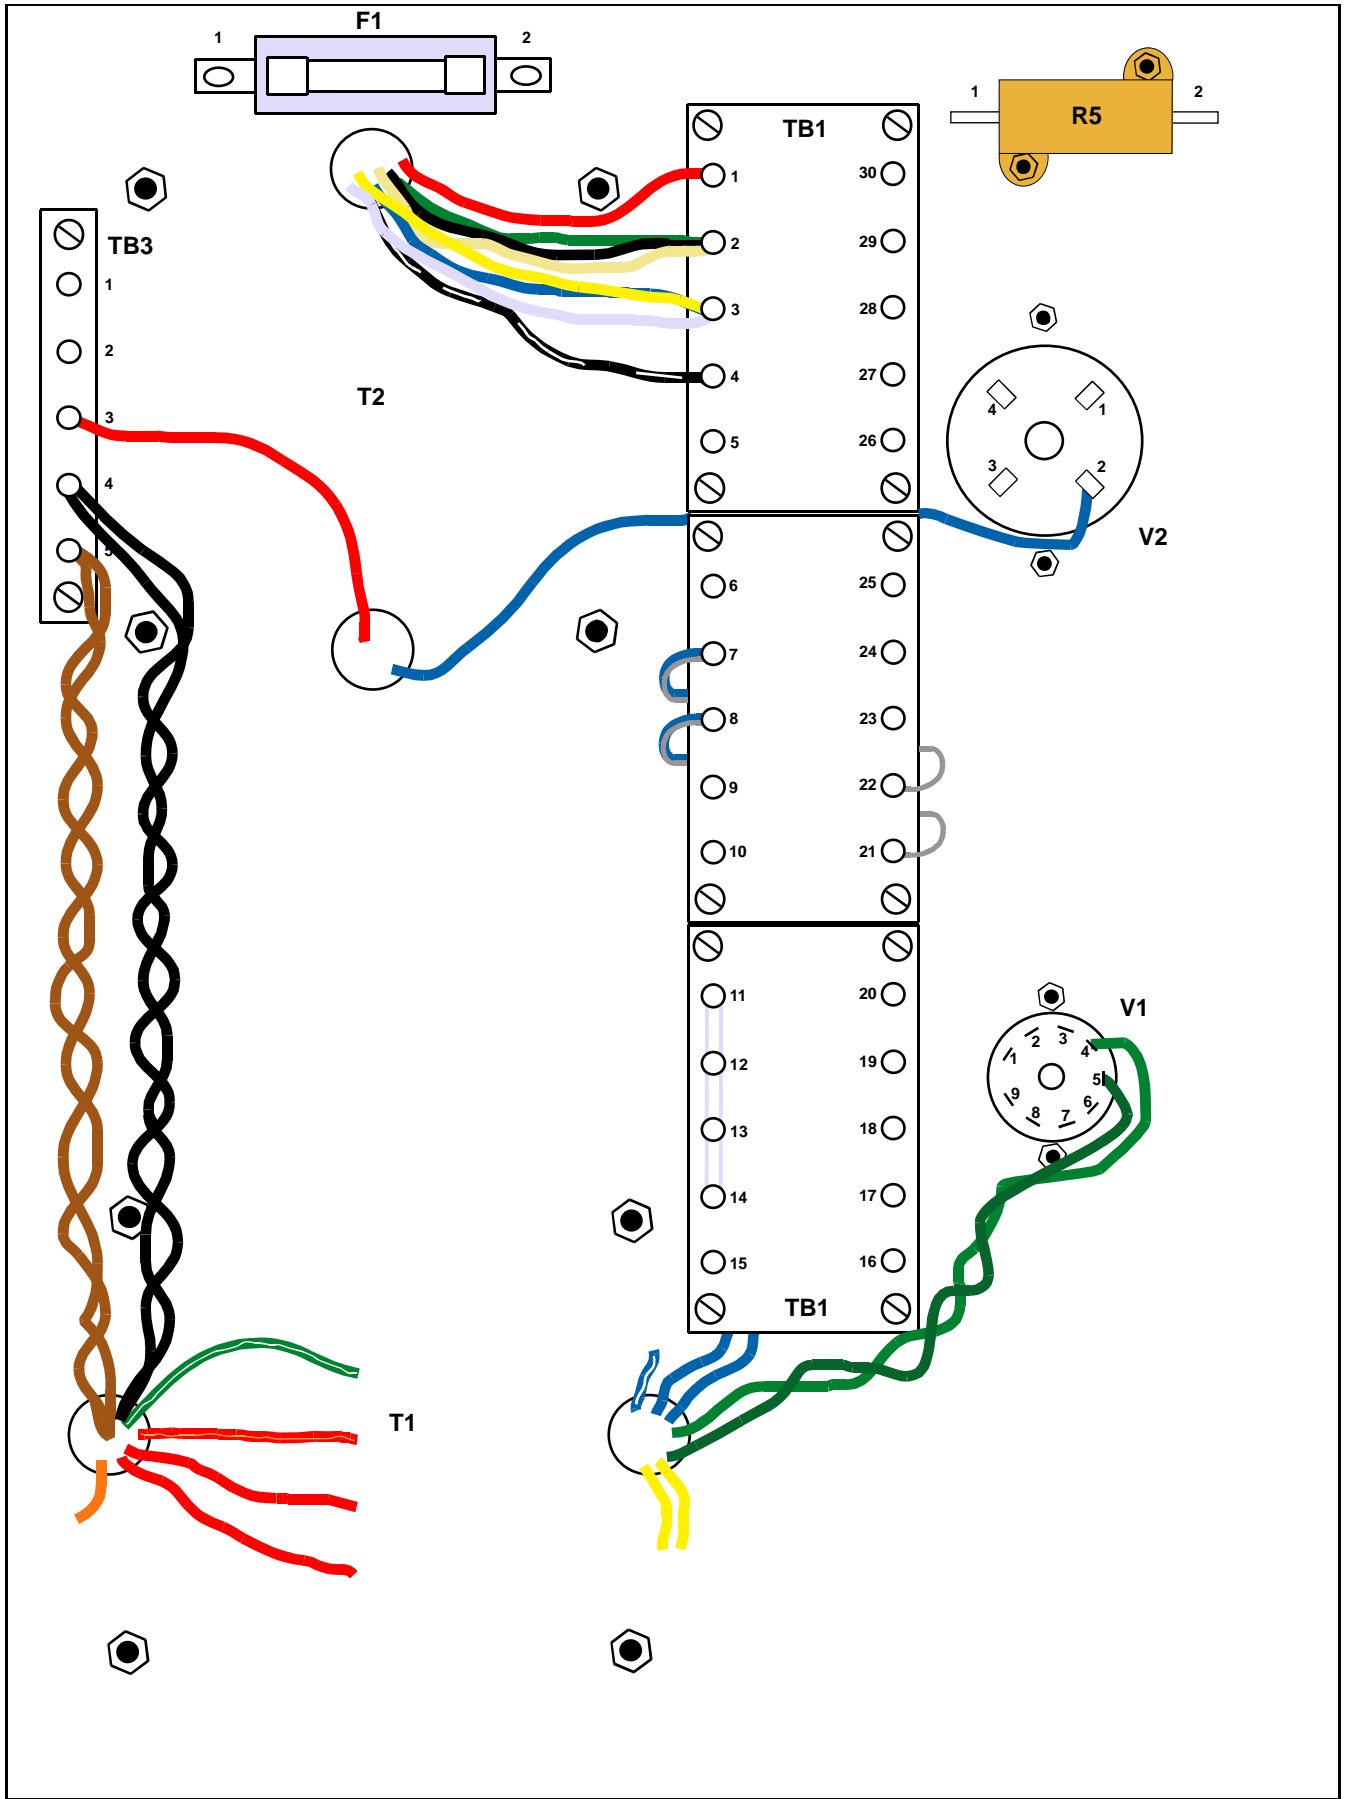

Figure 3
2) Mount the output transformer T2 and the power transformer T1 using the supplied hardware. It is generally easiest to do this by laying the chassis on a flat surface and feeding the transformer wires down through their respective holes. Referring to figure 3 and identifying the location of the transformer lead colors will give you an indication of which direction to orient the transformers when mounting them onto the top plate. **Be careful not to scratch the plate surface with the transformer edges or your tools.** Secure the transformers to the chassis using the button head screws, brass washers and brass nuts supplied in the plastic bag marked "H/W1".
There are two green leads from transformer T1. Twist these two leads together using approximately 2 twists per inch, route them as shown in figure 3, and solder one green lead to V1-4 and the other lead to V1-5. These leads can also be routed under TB1.
There are two blue leads from transformer T1. Twist these two leads together using approximately 2 twists per inch, route them along TB1 as shown in figure 3, and solder one blue lead to TB1-7 and the other lead to TB1-8.
4) Connect the T1 transformer primary leads based upon your ac voltage requirements. Refer to figure 3 and the instructions below (figure 3 depicts a 120Vac connection).
Refer to the table below for the output transformer coding. The output impedances are selected by interconnecting the eight color coded secondary leads as shown below. Figure 3 depicts the connection for 8 ohms, however the terminals of TB1 can be used for connecting any of the configurations below. If you decide to shorten the output leads of the transformer T2, the red enamel coating on the wires must be removed before soldering to the terminals. This can be easily done by scraping with a razor blade.
Locate the bare uninsulated silver wire. Wrap a piece of the wire tightly around terminals TB1-11, TB1-12, TB1-13 and TB1-14 as shown in figure 3. Now make a solder connection between each of the terminals and the wires.